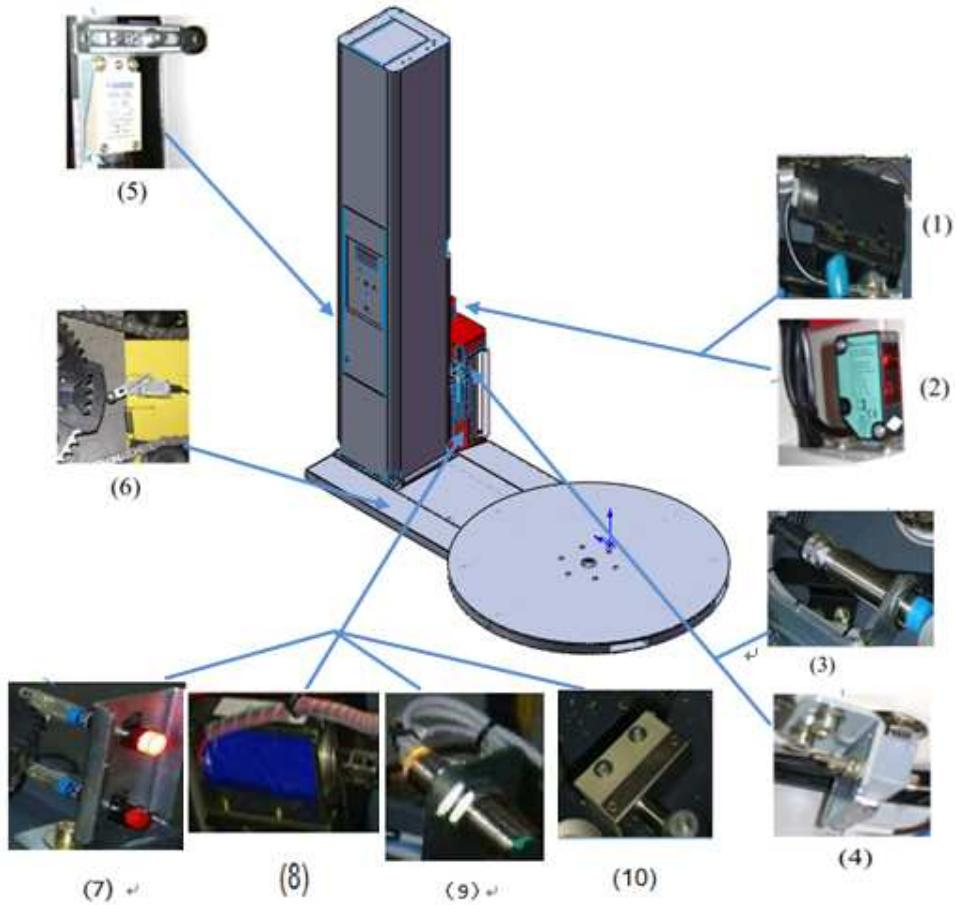

FIG 8
8. Top presser travel switch (FIG 8)